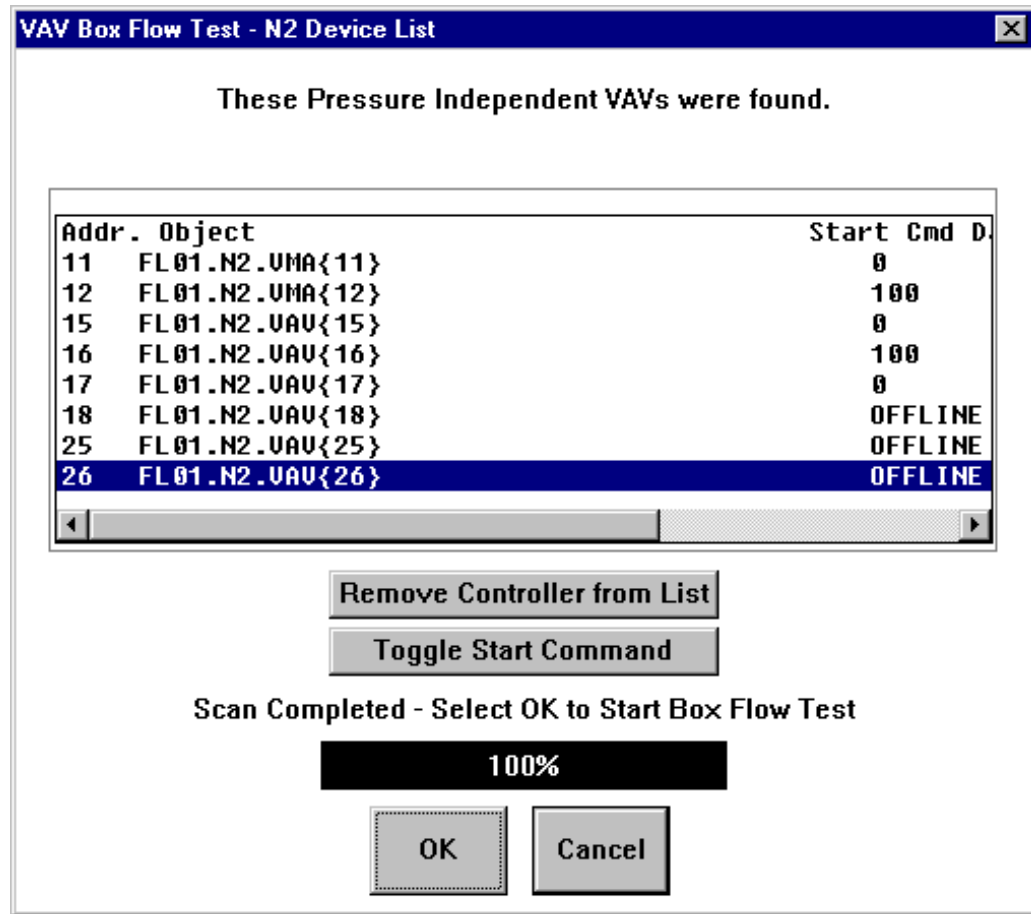

Figure 17-21: Multiple VAV Box Flow Test - N2 Device List Window
4. Select a Supervisory Controller, then click OK or press Enter. HVAC PRO software searches the Supervisory Controller and displays a list of all Single Duct pressure independent VAV boxes found (Figure 17-21).